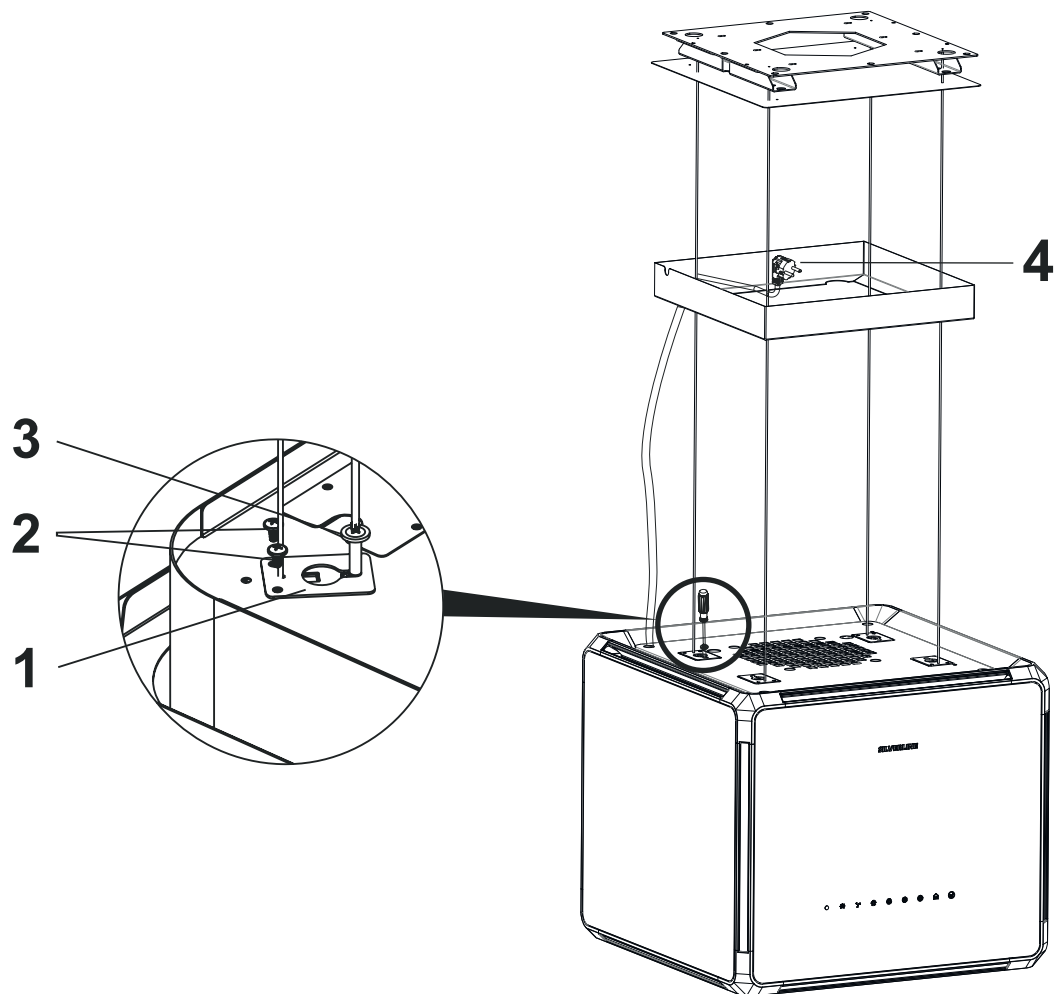

Fig. 15
1. ➔ Assemble 4 ceiling hanger locking mechanisms (1) on the body with 3.5 x 9.5 screws (2) and M5 x 15 screws (3) (Fig. 15)
2. ➔ Pass the supply cable (4) through the supply cable passage (Fig. 15/5) in the ceiling suspension plate and make the electrical connection. Close the ceiling hanger plate cover.